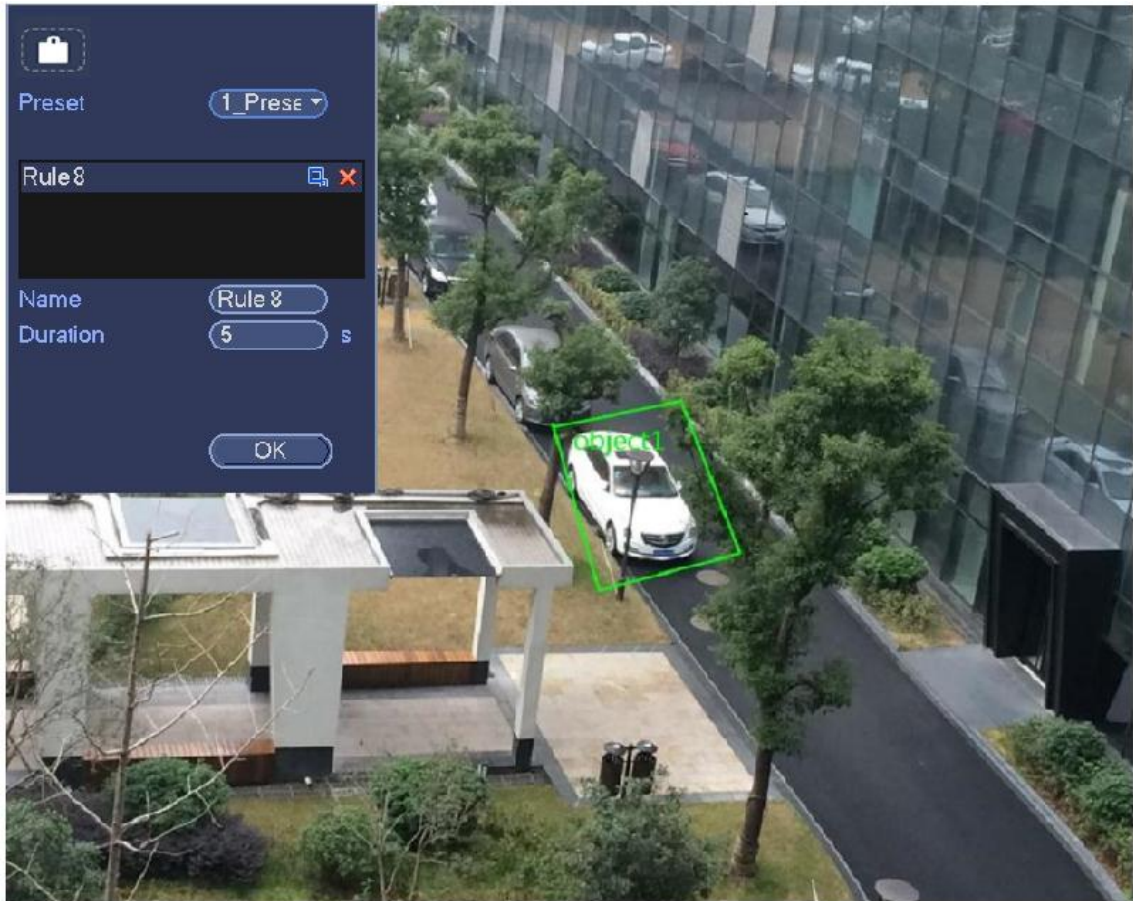

Figure 4-145
1. Click to draw the rule in the monitoring screen. See Figure 4-145.